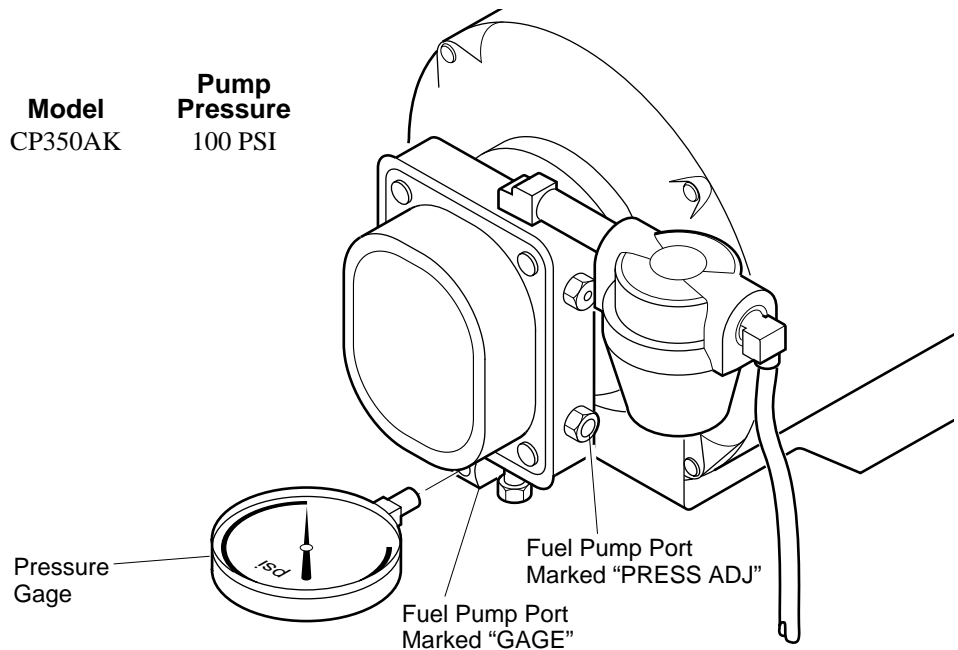

Figure 9 - Adjusting Pump Pressure
2. Install accessory pressure gage (part no. 500-20914) to fuel pump port marked "GAGE" (see Figure 9).